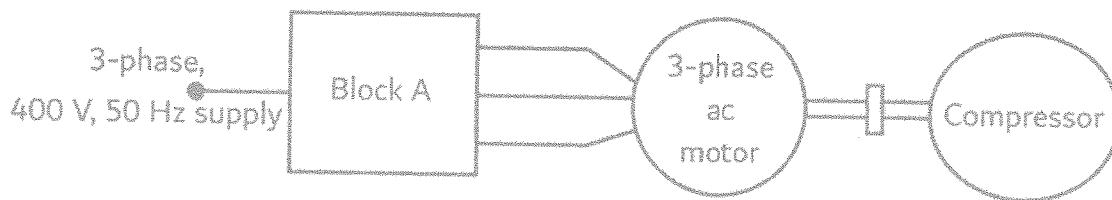

Figure Q3(a).
- ii) Figure Q3(a) shows the block diagram of a load-proportional capacity modulated heat pump. What is the purpose of Block-A in this system?